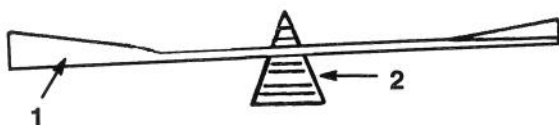

Figure 20
2. Check the balance of the blade by putting it on a blade balancer (Fig. 20). If the blade stays in a horizontal position, the blade is balanced and can be used. If the blade is not balanced, file some metal off the back side of the blade. Repeat this procedure until the blade is balanced.